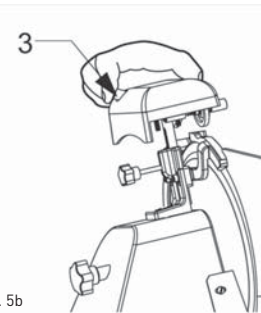

Fig. 5b
- switch-on the slicer by pushing the button "I" (ON);
- push the small button (3, Fig. 5b), let the blade rotate against the sharpener for 30/40 sec. to produce a sharp burr on the blade edge;